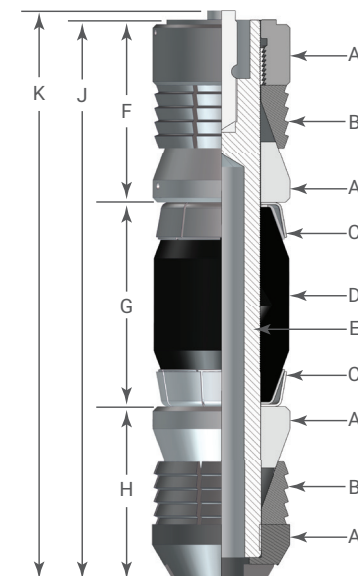
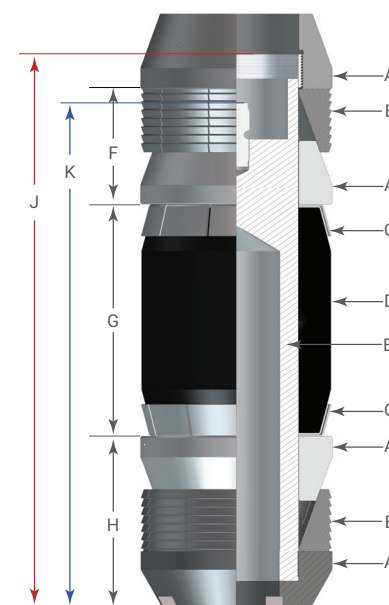

FIGURE 1: P/N 000-3710-002 IS SHOWN
FIGURE 2: P/N 000-8710-002 IS SHOWN
* The second column indicates which illustration to reference for plug dimensioning (Figure 1 or Figure 2).